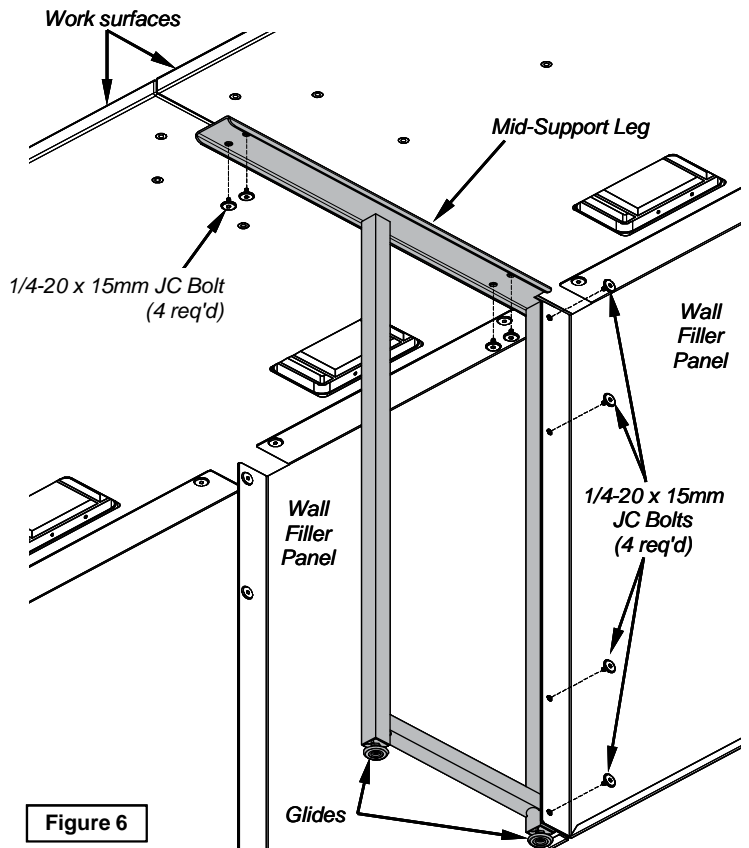

Figure 6
- B. Install (2) 1/4-20 x 90mm JC bolts and (2) 1/4-20 locknuts.
- Install the (2) glides onto the bottom of the leg. The glides can be adjusted later to level the console.
- Align the mid-support leg and wall filler panel mounting holes as shown . **Figure 6.**
- Attach the mid-support leg to the wall filler panels with (4) 1/4-20 x 15mm JC bolts.
- Attach to work surfaces with (4) 1/4-20 x 15mm JC bolts